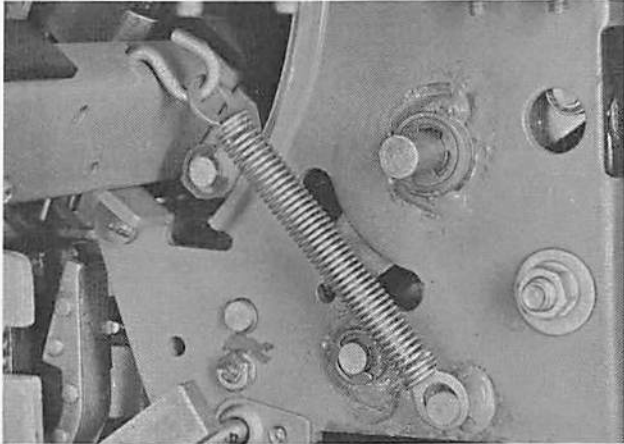

Figure 4
- Remove right and left hand accelerating springs (Figure 4).